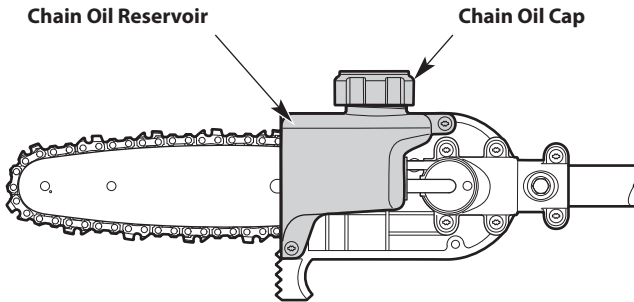

Fig. 14
1. **Set the unit on a flat, level surface. Position the unit with the chain oil cap facing up (Fig. 14).**
2. Make sure that the chain oil reservoir is at least half full (Fig. 14). If the oil level is too low, add bar and chain oil. Refer to *Filling the Chain Oil Reservoir*.
3. Unscrew the chain oil cap (Fig. 14).